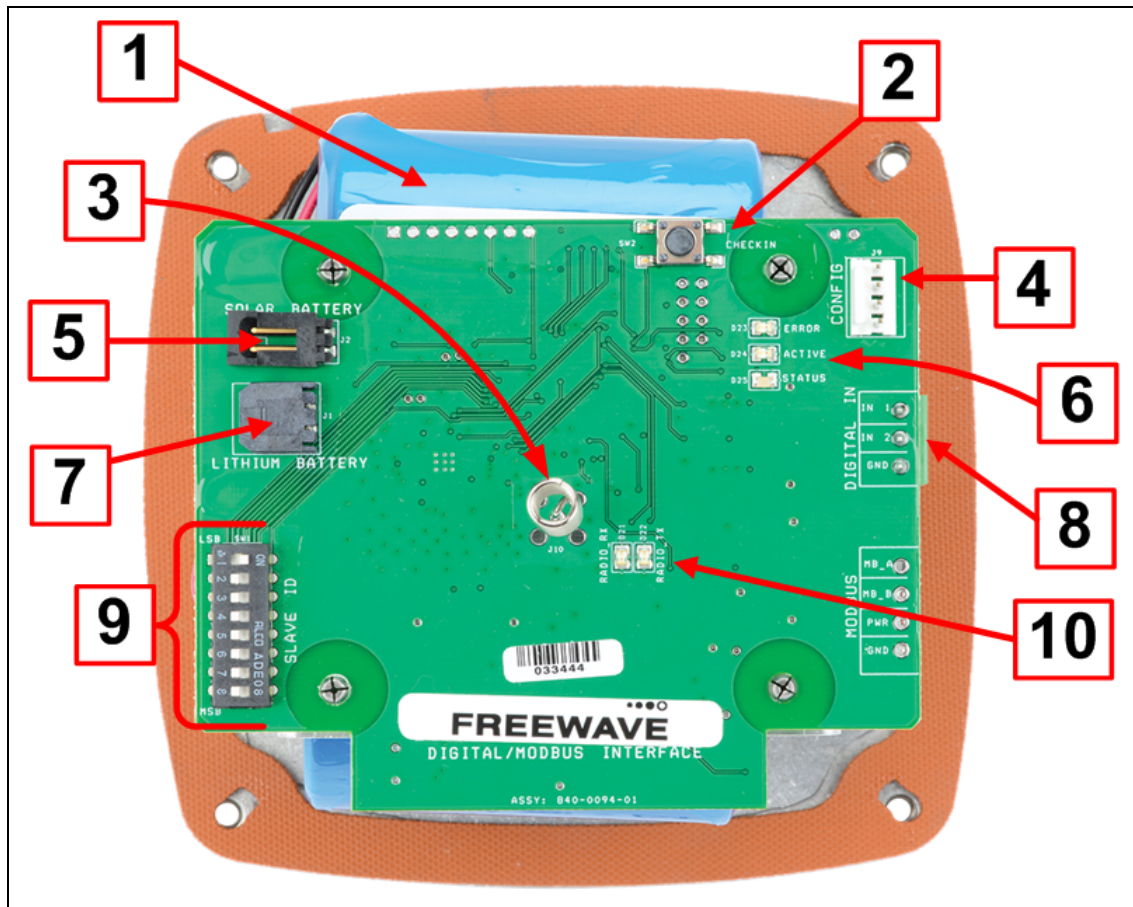

Figure 1: Internal Connections: WC20i-DI or WC20i-DI-S Modular Endpoint
4. Connect the battery power cable to the **Internal Lithium Battery** connection (see #7 of Figure 1 on page 11).
5. Connect the 4-pin to USB programming cable to the **RS232 Config / Debug** connector (see #4 of Figure 1 on page 11).
4. Connect the solar power cable to the **Solar Battery** connection (see #5 of Figure 1 on page 11).